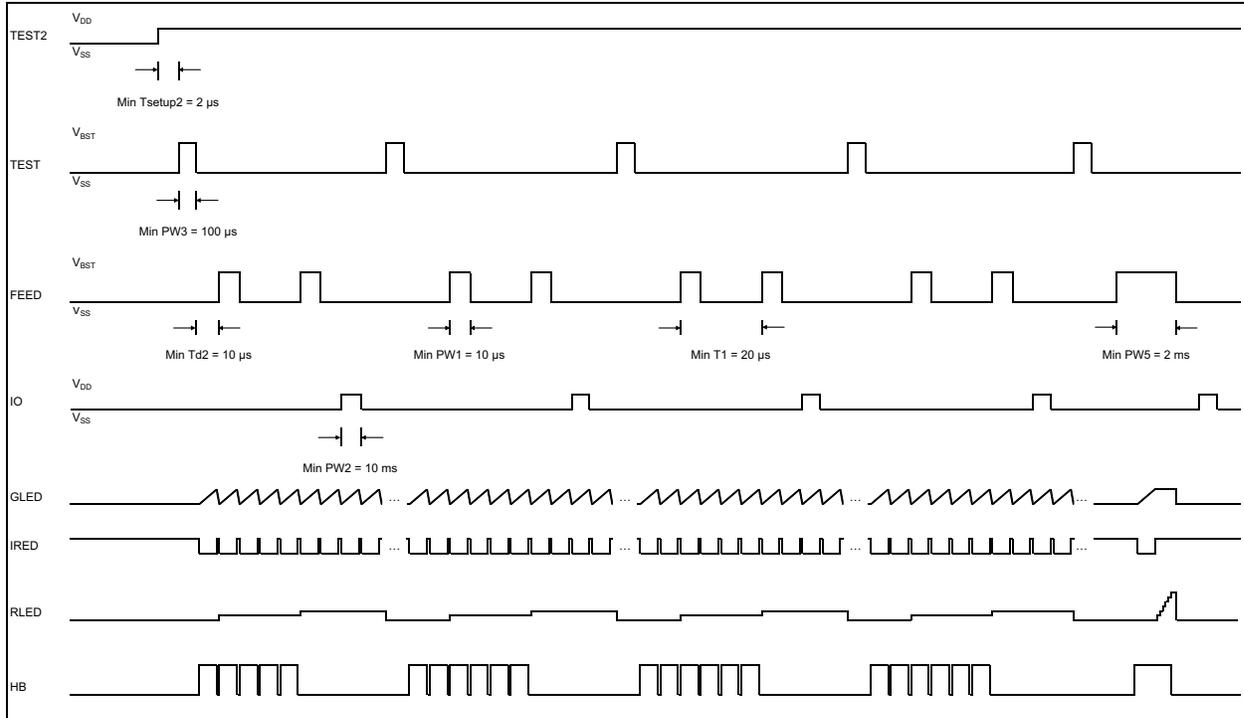

FIGURE 4-4: Timing Diagram for Modes T1 to T5.
3. Apply a clock pulse to the TEST input to enter in T1 mode. This initiates the calibration mode for Normal Limits setting. The Integrator output sawtooth appears at GLED and the smoke detection level at RLED. Clock FEED to increase the smoke detection level as needed. Once the desired smoke threshold is reached, the IO input is pulsed low to high to enter the result. See typical waveforms in Figure 4-4. Operating the circuit in this manner, with nearly continuous IRED current for an extended period of time, can result in undesired or excessive heating of the part. The duration of this step must be minimized.